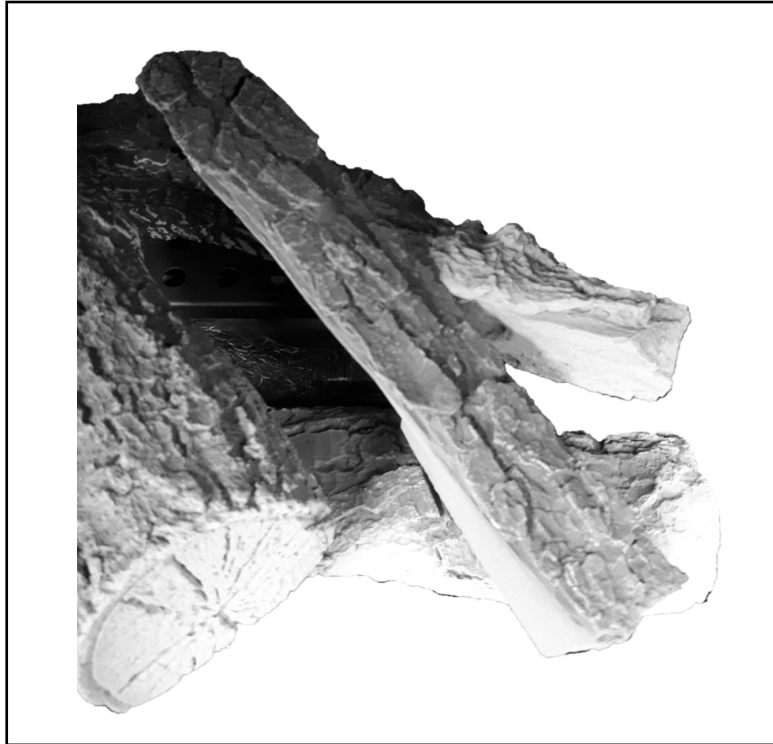

Fig. 13
13. Place Log '13' so that it is resting on Log '3' and to its rear on Log '2' as shown in fig.13.
Note: Ensure that there is a gap maintained from Log '12' as shown in fig.13.